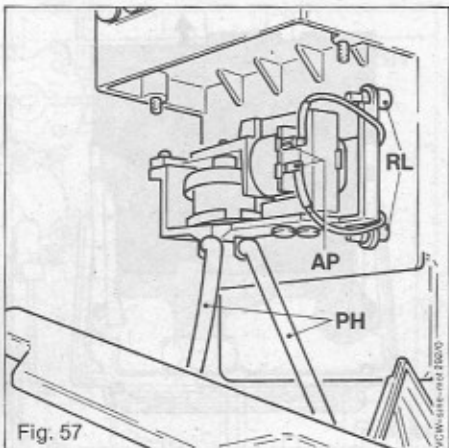

Fig. 57
14.6.6 Change of diaphragm pump (Fig. 57)